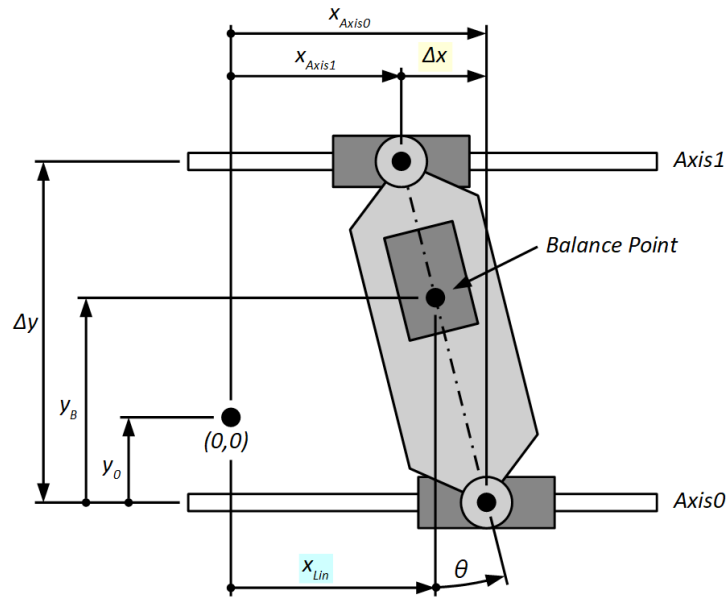

Figure 1: Gantry coordinate systems: Motor related coordinates (x_{Axis0} , x_{Axis1}) and linear/rotational coordinates (θ , x_{Lin}).
The coordinates are illustrated in Figure 1. The position difference $\Delta x = x_{Axis0} - x_{Axis1}$ is used as input for the rotational controller which is proportional to the angle θ ¹.
- If there is a dependency to another axis (in the following called axis y in accordance with Figure 1), repeat the measurement above for different positions of the axis y and fit `BalanceOffset` and `BalanceSlope` into the measurement according to the following equation: